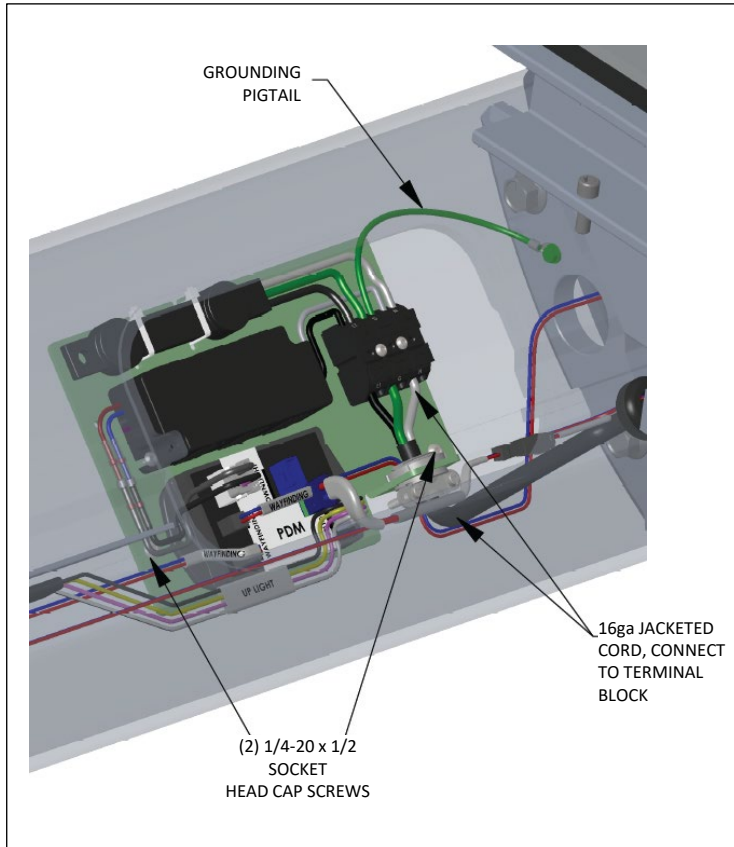
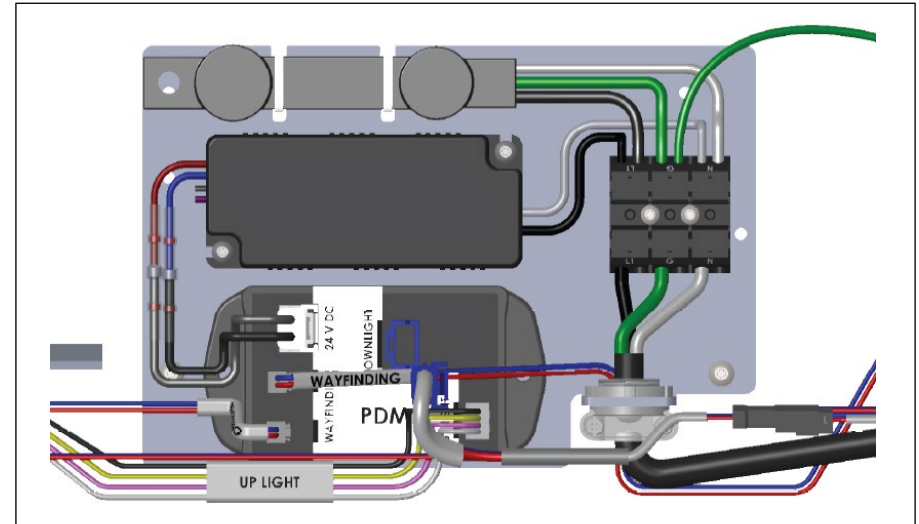

Fig. D8 – Install driver plate assembly, front right access hole
Fig. D9 – wiring connections
7. Driver plate assembly: Attach driver plate to front horizontal beam, in the front right access location, see Fig. D8.
8. Make connections to PDM as labeled: Uplight, Wayfinding (x2), Downlight, see Figs D9 and D10. Make connections to terminal block from the 16 gauge jacketed cord. Attach grounding pigtail to front horizontal beam, see Fig. D8. Tighten cord grip. Replace access cover.